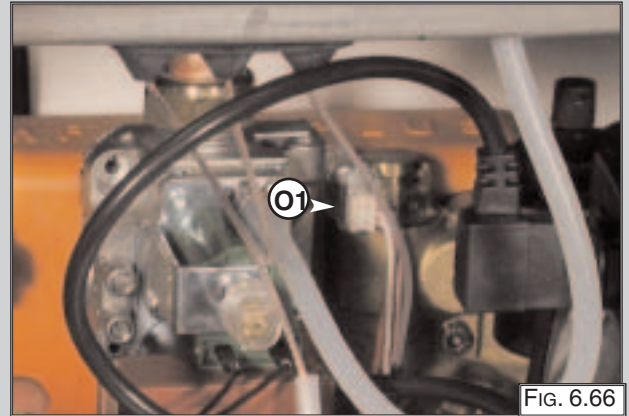

FIG. 6.66
1. Unplug the electrical connector "O1" (FIG. 6.66);